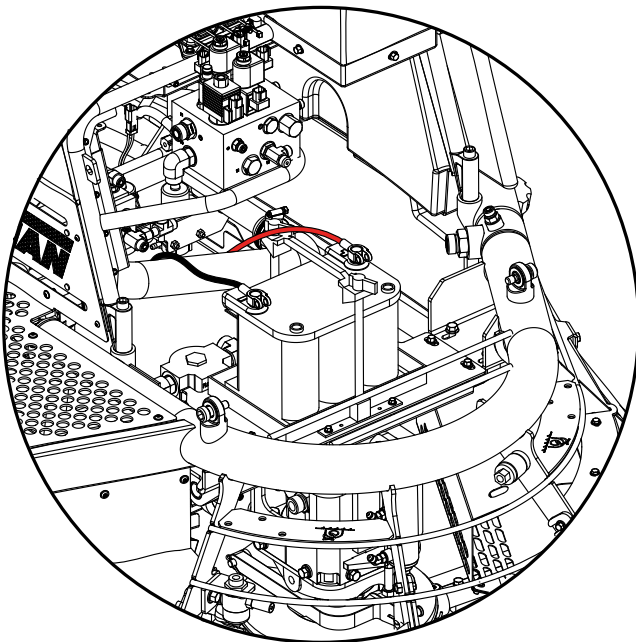

Figure 17. Battery Box
2. First connect the positive cable (**RED**) to the positive terminal on the battery, then connect the negative cable (**BLACK**) to the negative terminal (Figure 17).